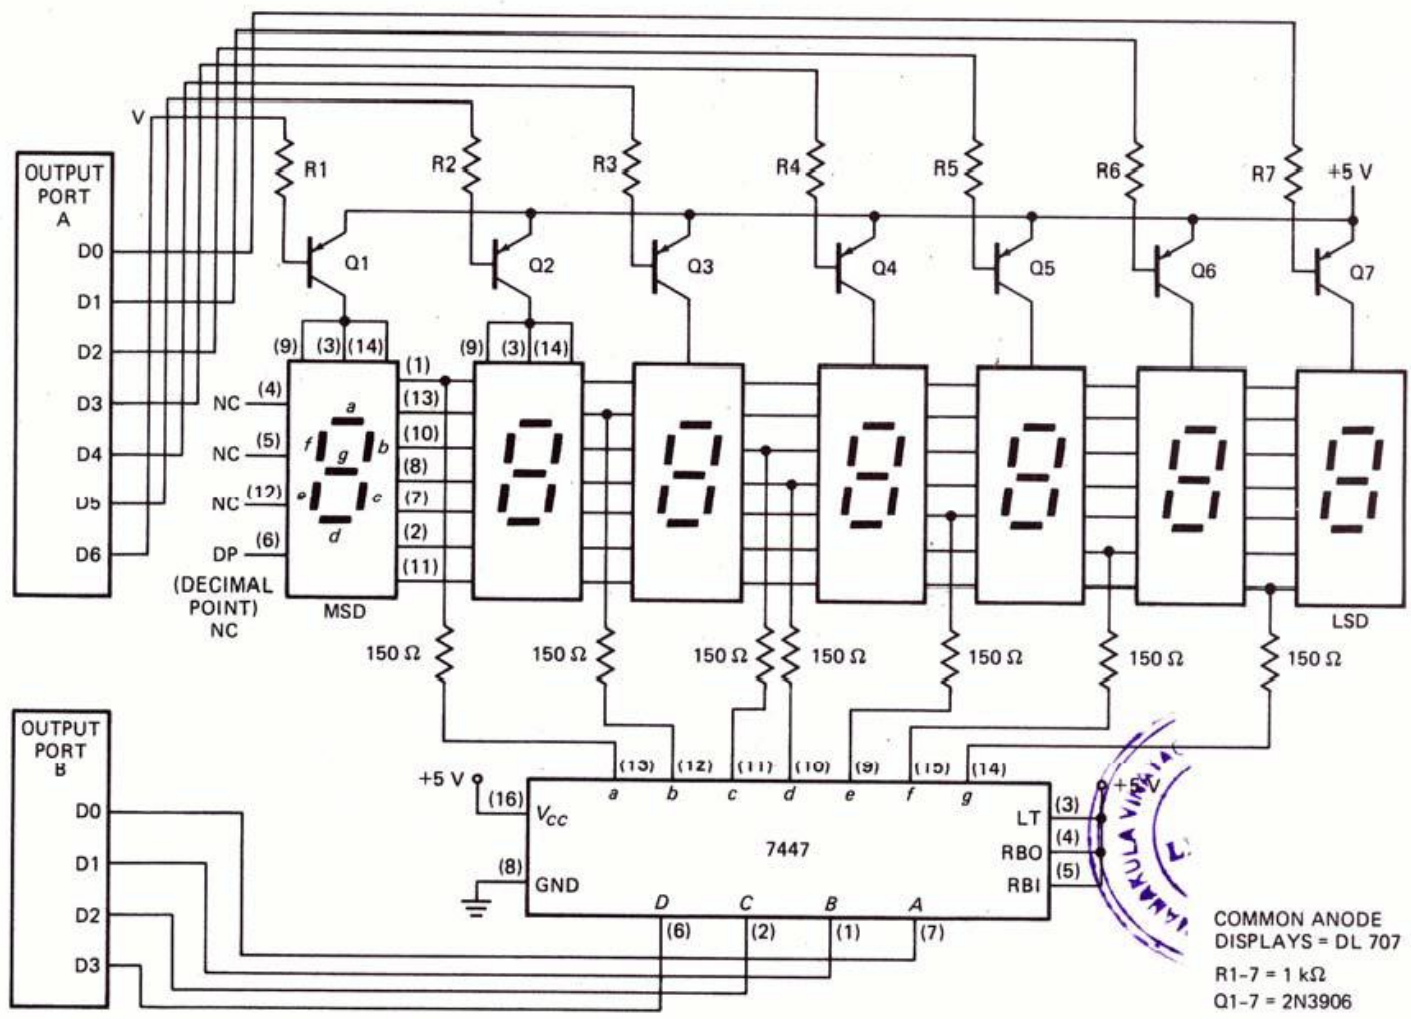

Fig 5.2 Multiplexed LED display with microprocessor
- Figure 5.2 shows a circuit for the multiplexed display interface with microcomputer or microprocessor